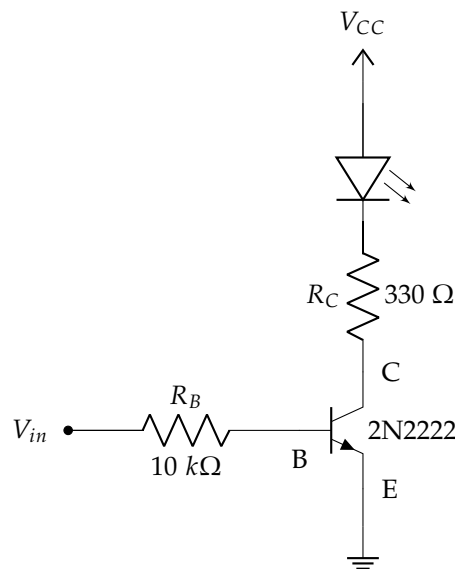

Figure 1.2: Transistor as a switch
**Task 8.** Construct the circuit given in Figure 1.2 on the protoboard. The transistor is 2N2222. Apply +5 V to  $V_{CC}$  while the Emitter terminal is grounded.